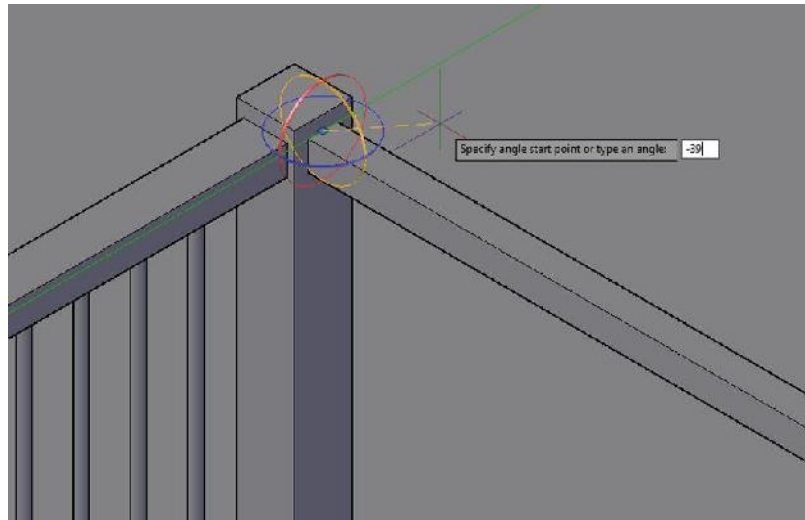

FIGURE 16.62: Rotating the handrail into place
9. At the Pick rotation axis: prompt, click the green y-axis ring. Then, at the Specify angle start point or type an angle: prompt, enter **-39.1** as shown in Figure 16.62.